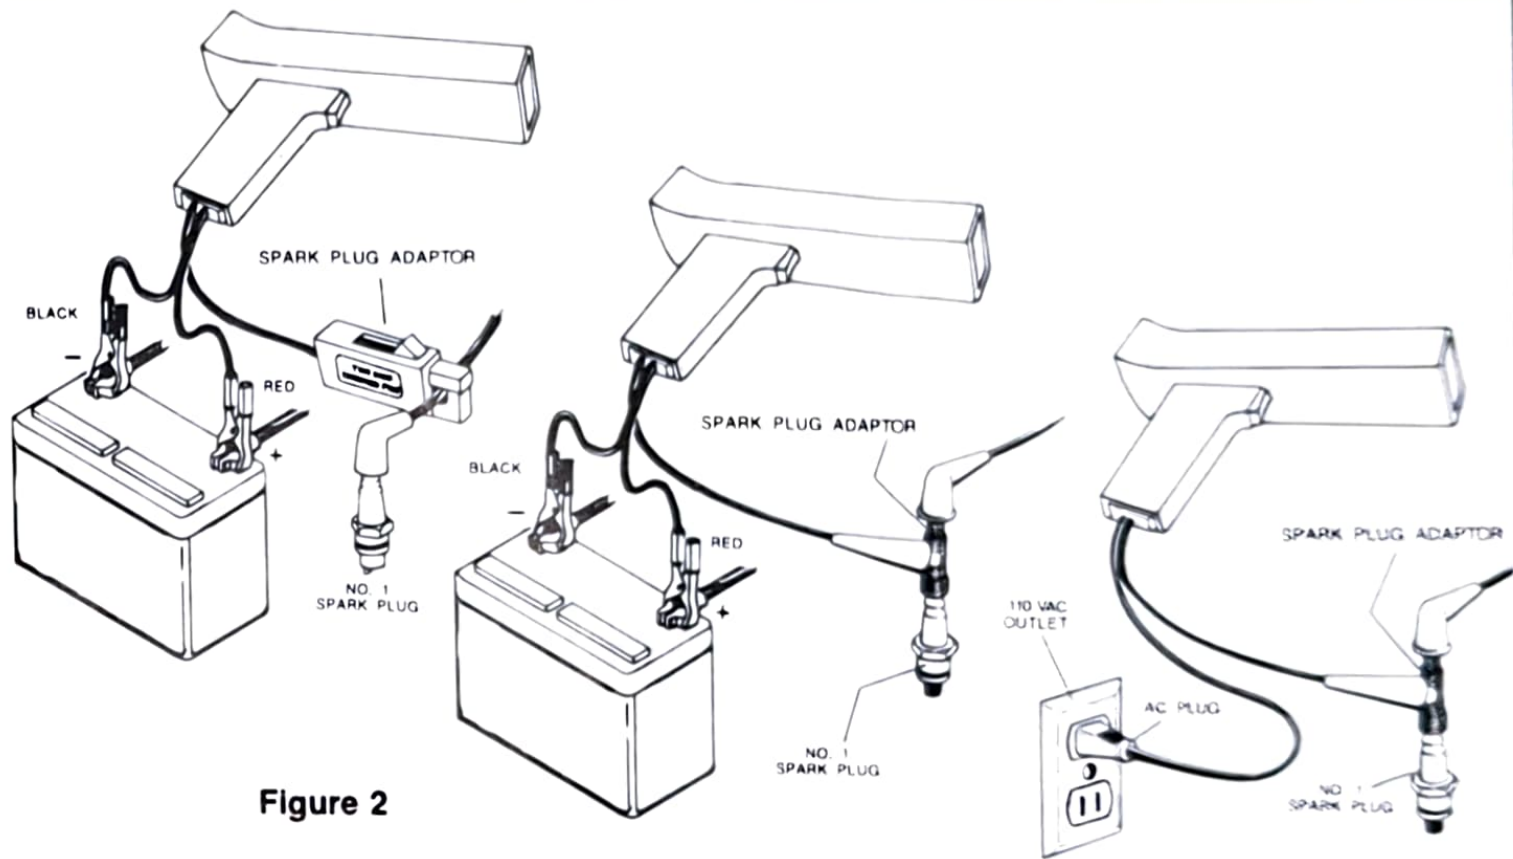

Figure 2
5. Connect the timing light as shown in figure 2.